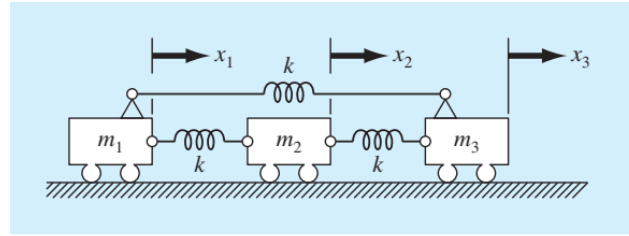

FIGURE P13.5
13.5 Consider the mass-spring system in Fig. P13.5. The frequencies for the mass vibrations can be determined by solving for the eigenvalues and by applying $M\ddot{x} + kx = 0$, which yields